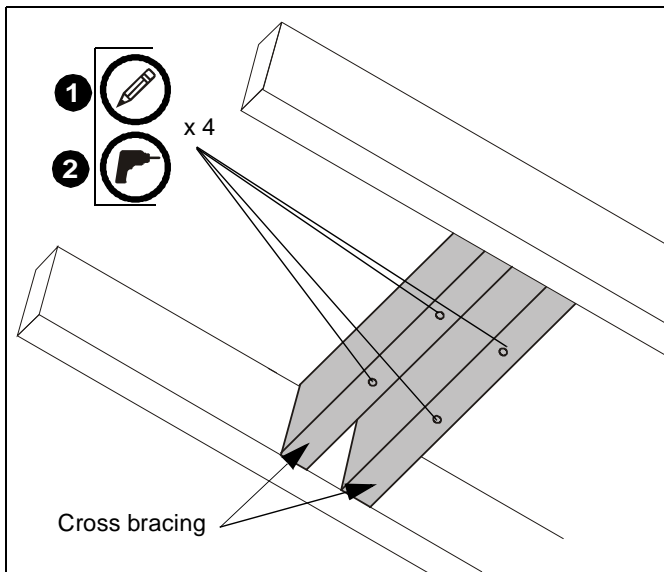

Figure 1
- Using ceiling plate (A) as a template, mark locations of four pilot holes (See Figure 1). Ensure the marks are in the center of wood joists.
- Drill 1/4" diameter pilot holes into wood stud cross bracing. (See Figure 1) Ensure pilot holes are straight.